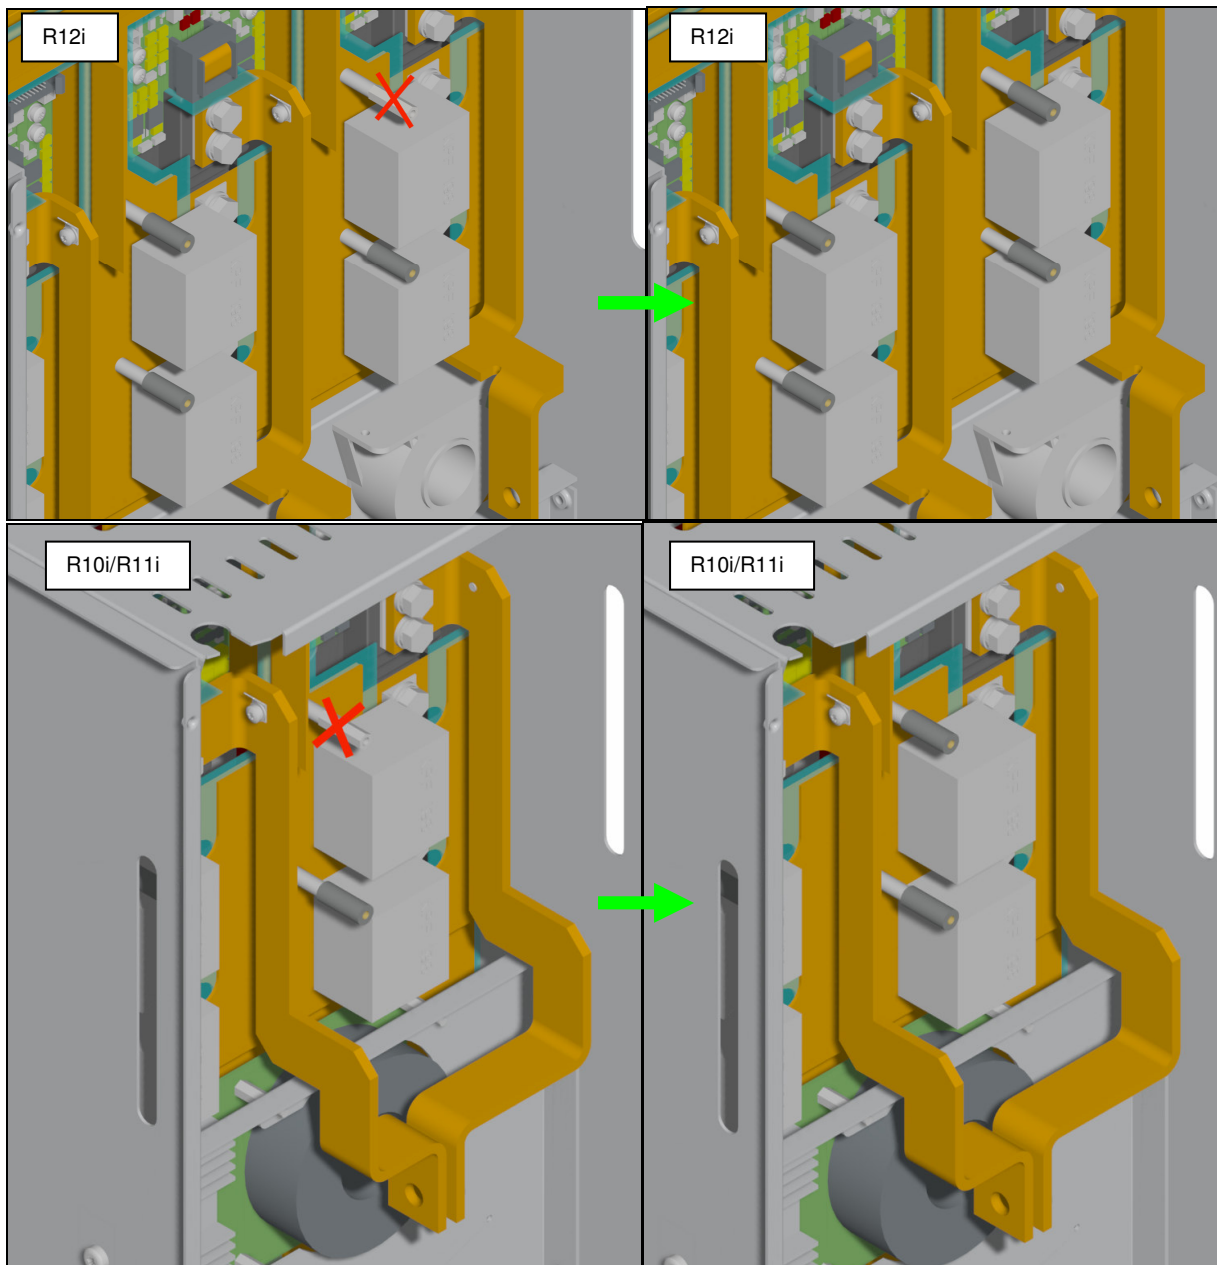

Figure 4. Replace 1 metal spacer with an insulating spacer.
Figure 4. A principle drawing of parallel connected IGBTs in 3x R12i and 4xR12i ACW600 Multidrive. Minimum upgrade is marked with [X] in the case one phase module is damaged. In figures phase W is damaged.
4. Replace the metal spacer with a provided insulating spacer as shown in figure 4.